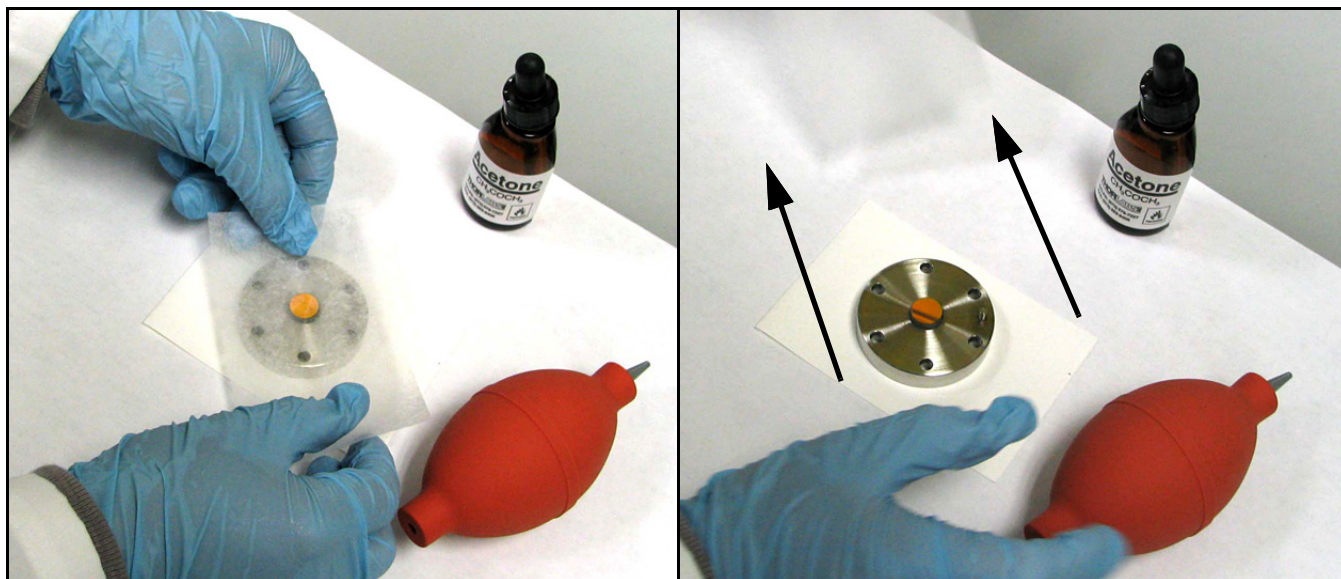

Figure 89: Dragging the Wet Lens Tissue Across the Mirror
5. Place the wet lens tissue on top of the mirror and drag it horizontally across the surface of the mirror (see *Figure 89* below), ensuring minimal liquid residue/streaks are left behind on the mirror surface.